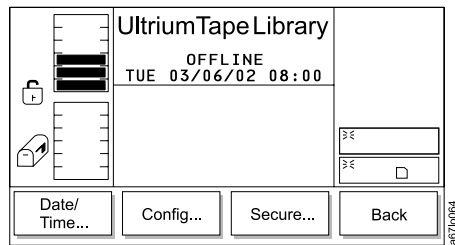

Figure 232. Utils Submenu
3. Press the button below the **Utils** softkey. The Utils Dialog displays (see Figure 232 on page 179).
7. Verify that the new setting is correct on the display, then press the button below the **OK** softkey to accept the setting. The library displays a message that it must reboot to make the changes. Press the button below the **OK** softkey. The Utils Submenu redisplay (see Figure 232).